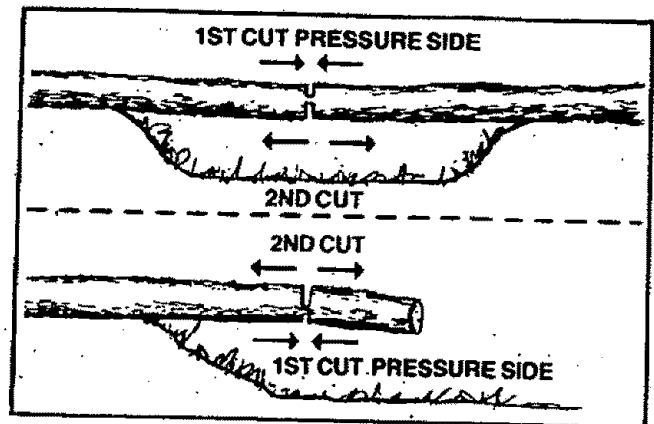

Figure 22
- Make the first bucking cut 1/3 of the way through the log and finish with a 2/3 cut on the opposite side. Figures 22, 25 and 26. As the log is being cut, it will tend to bend. The saw can become pinched or hung in the log if you make the first cut deeper than 1/3 of the diameter of the log.
- Give special attention to logs under strain to prevent the saw from pinching. Make the first cut on the pressure side to relieve the stress on the log. Figure 22.